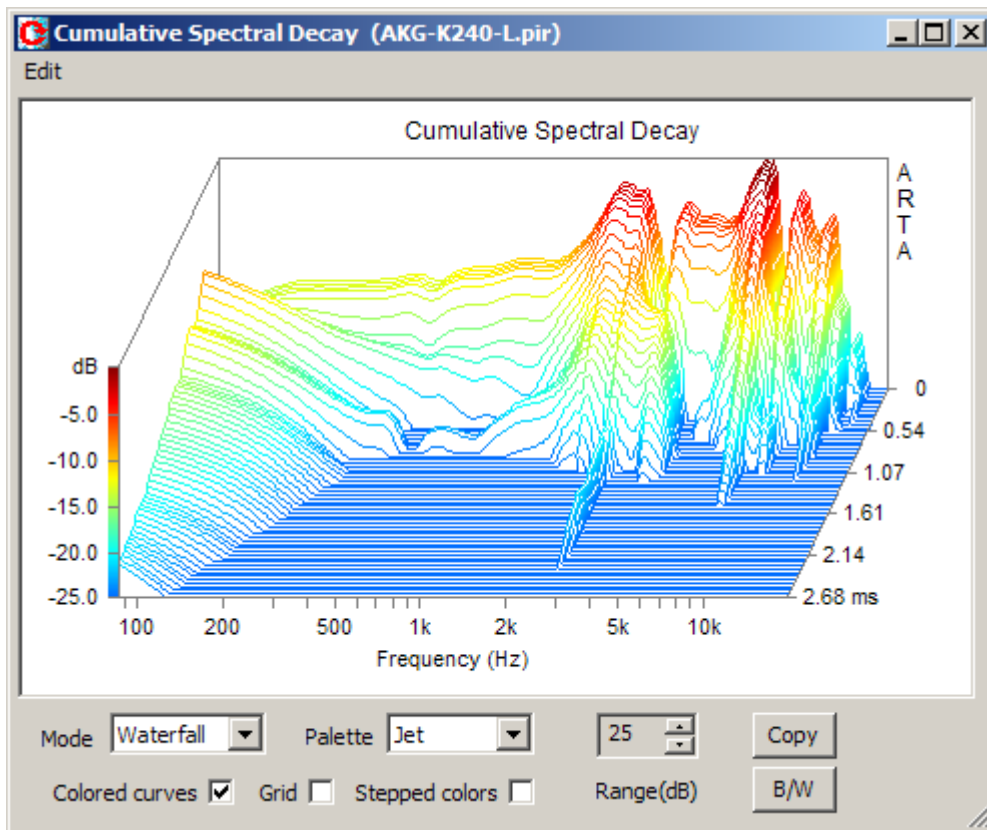
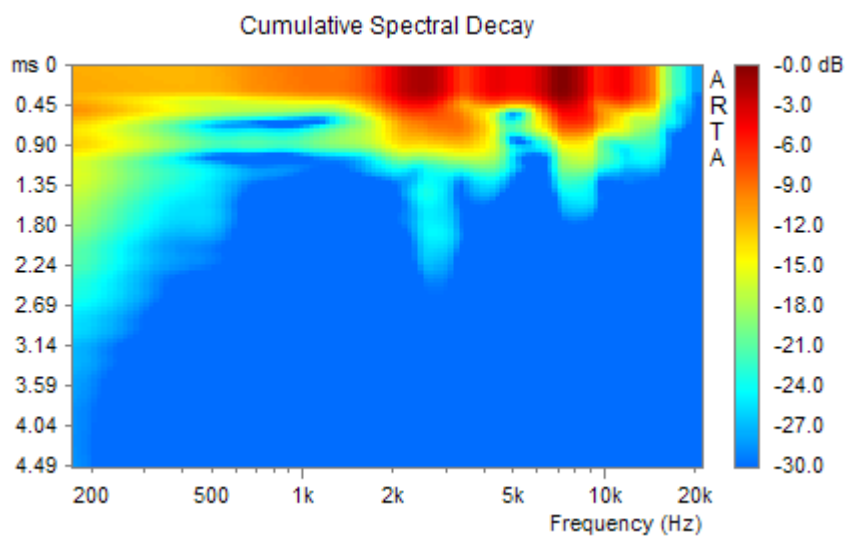
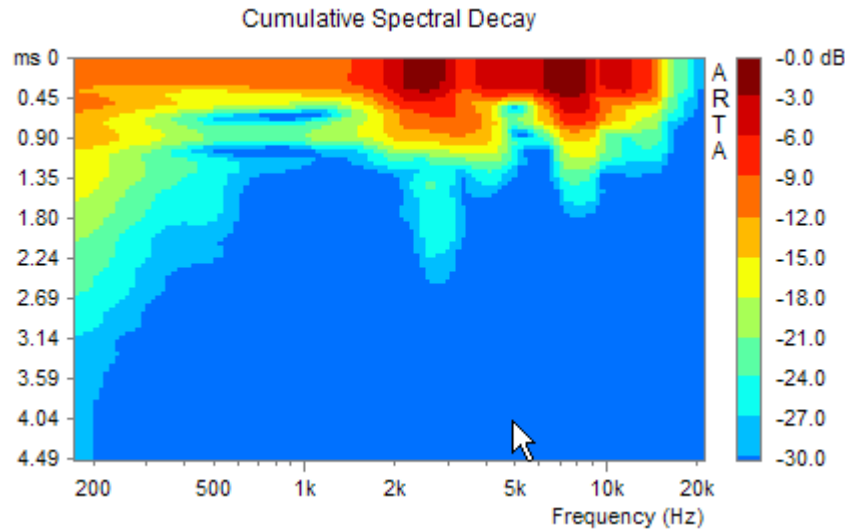

Figure 6.21 CSD shown as colored waterfall graph
Figure 6.22 CSD shown as sonogram
Figure 6.23 CSD shown as sonogram with stepped colors
Cumulative decay spectrum can be shown as a waterfall graph or as a sonogram. Waterfall graph curves can be drawn in colors which depend on the magnitude. The sonogram is a graph of a function whose magnitude is expressed by the predefined number and order of colors, called palette (Fig. 6.21). Use of the palette with a small number of discrete colors enhance contours in color plane (compare Fig. 6.22 and Fig. 6.23).
Cumulative spectrum window (Fig. 6.21) has following controls for graph manipulations.
- Stepped colors** - check box to choose the stepped (or gradual color) change (see Figures 6.22 and 6.23).
- Stepped colors** - check box to choose the stepped (or gradual) color change (see Figures 6.22 and 6.23).